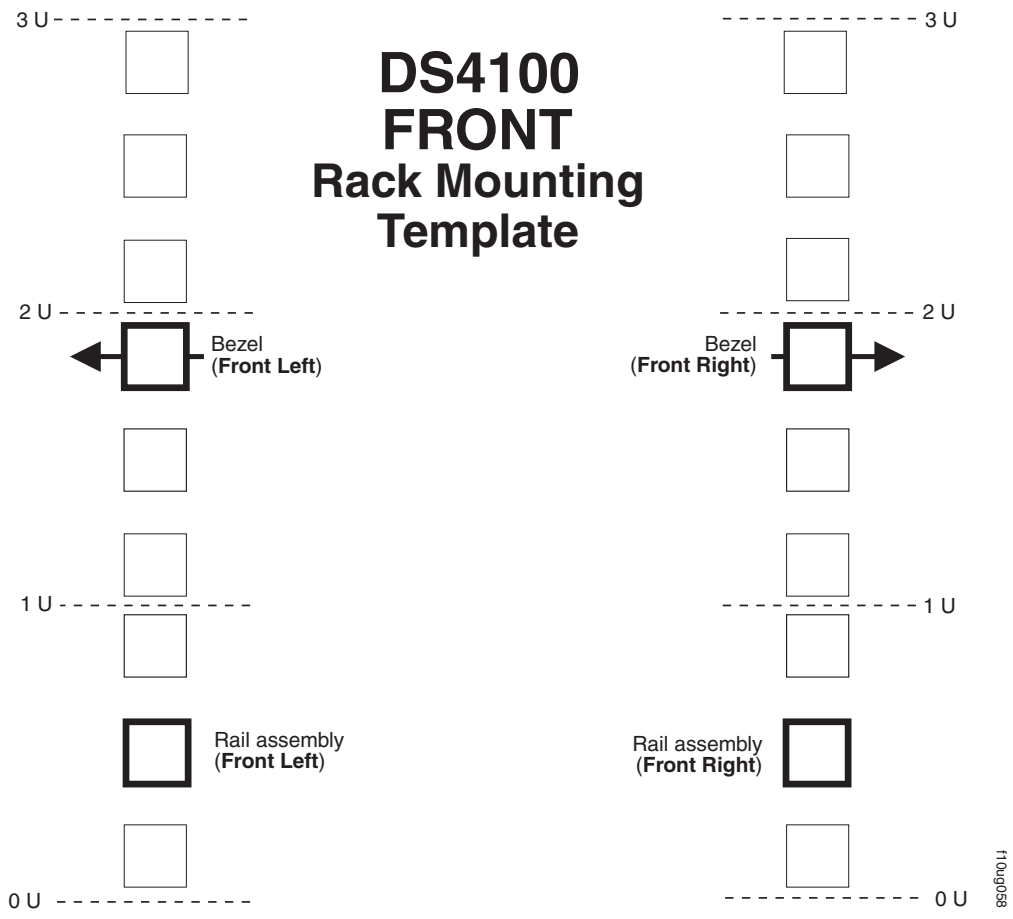
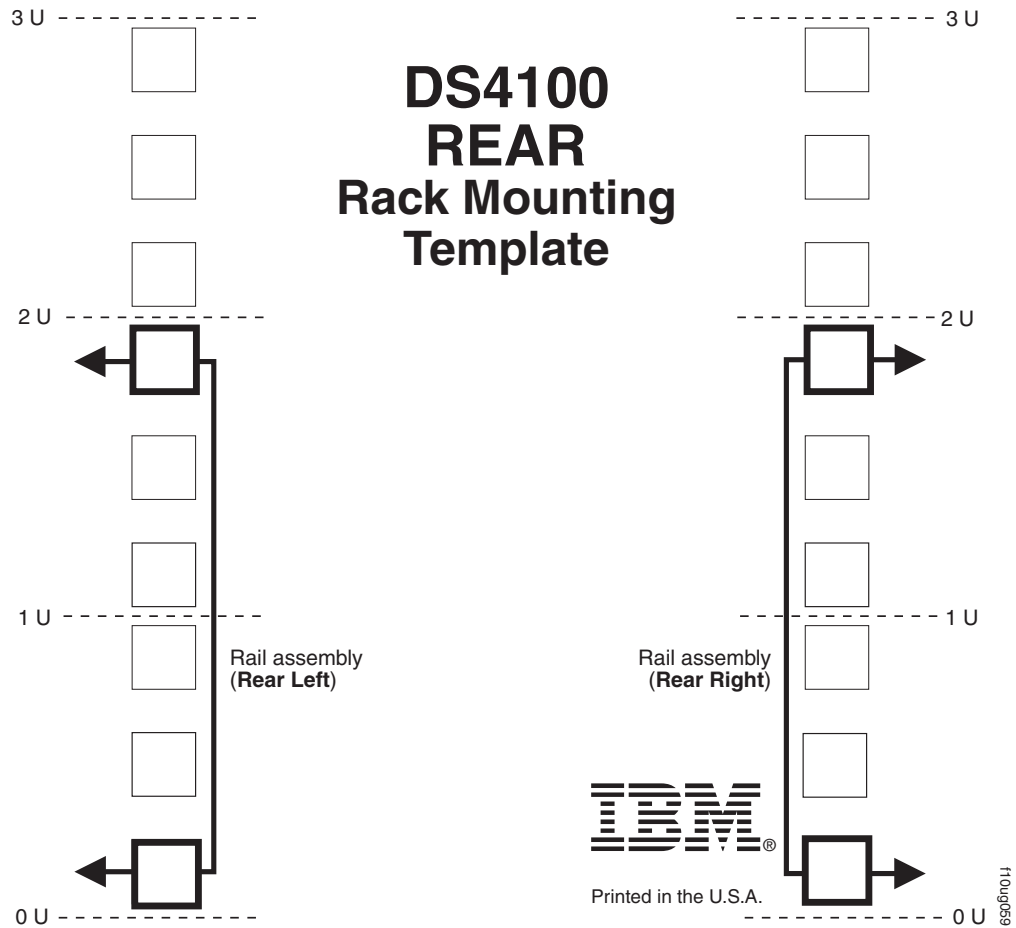

Figure 9. Front rack mounting template
Figure 10. Rear rack mounting template
Use the following templates (Figure 9 on page 21 and Figure 10 on page 22) to identify the proper locations for inserting M6 screws when mounting the support rails and DS4100 to a rack cabinet. The locations for the M6 screws are highlighted in the templates.
**Attention:** Use the rack mounting template provided in Figure 9 on page 21 and Figure 10 on page 22 to locate the proper rack mounting holes for installing the support rails into the rack cabinet.
- Hold the front of the rail against the inside of the right rack-mounting flange and loosely tighten the lower M6 screw ( **4** ). See Figure 9 on page 21 for the location for this screw.
- From the rear of the rack, thread and tighten two M6 screws ( **1** ) (see Figure 10 on page 22 for the location for these screws). From the front of the rack cabinet, finish tightening the front M6 screw ( **4** ).